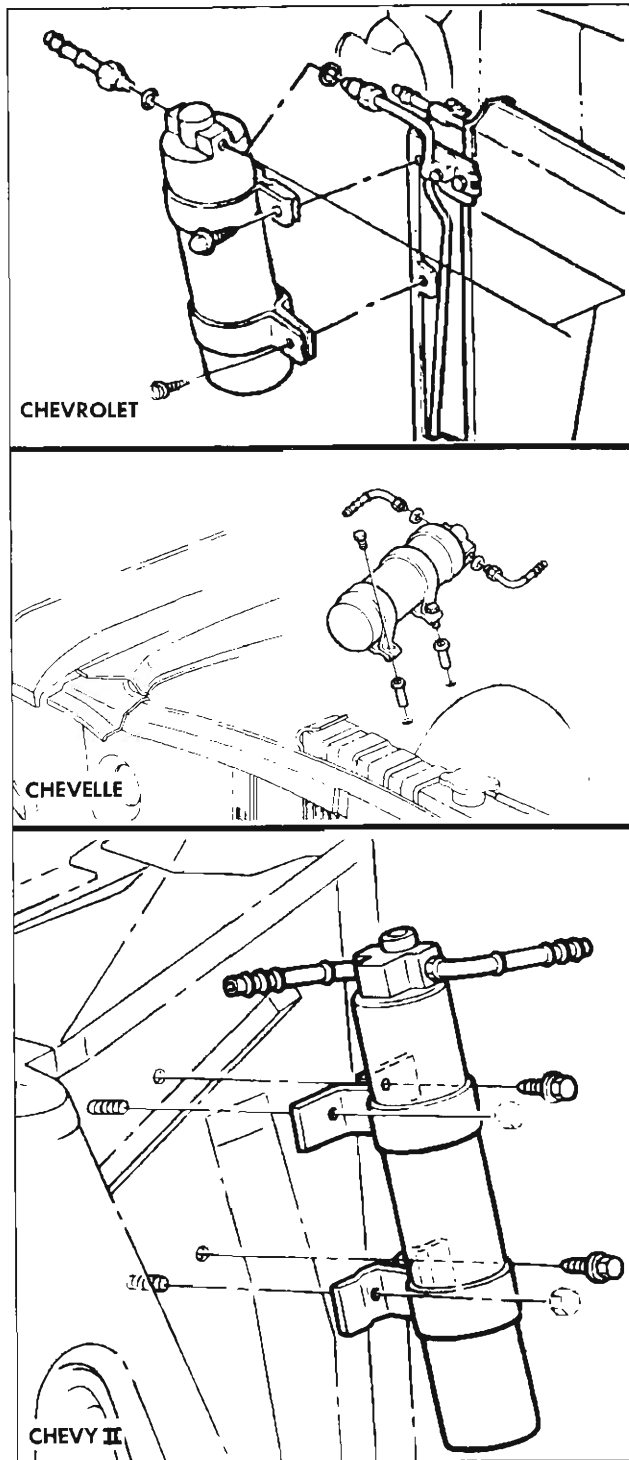

Fig. 43—Receiver Dehydrator Removal
If at any time when examining the compressor oil, moisture is found or there is an indication of moisture at the expansion valve needle, the receiver-dehydrator should be replaced as follows (fig. 43):
1. Remove the receiver inlet and outlet connections ("A" and "B", fig. 43) and the two receiver to condenser attaching screws "C".